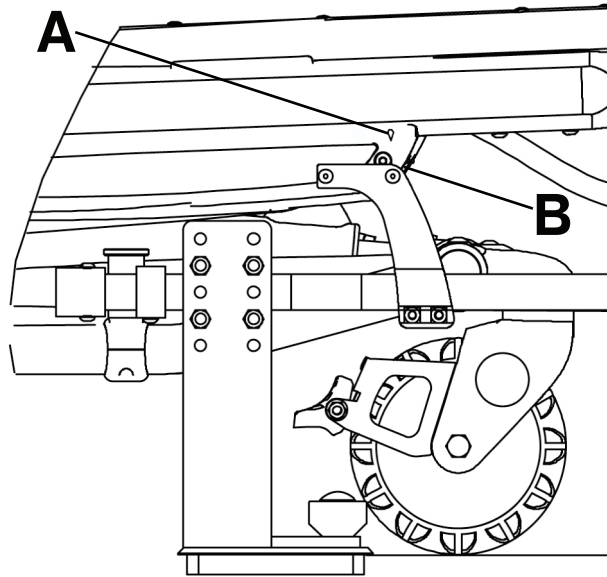

Figure 5 – Adjust shut-off bracket
4. Adjust the shut-off bracket along the rail clamp until the diamond (A) on the sensor housing is lined up with the pop rivet head (B) (Figure 5).
Note - Align the diamond (A) on the sensor housing cover with the pop rivet head (B) on the in-ambulance shut-off (Figure 5).